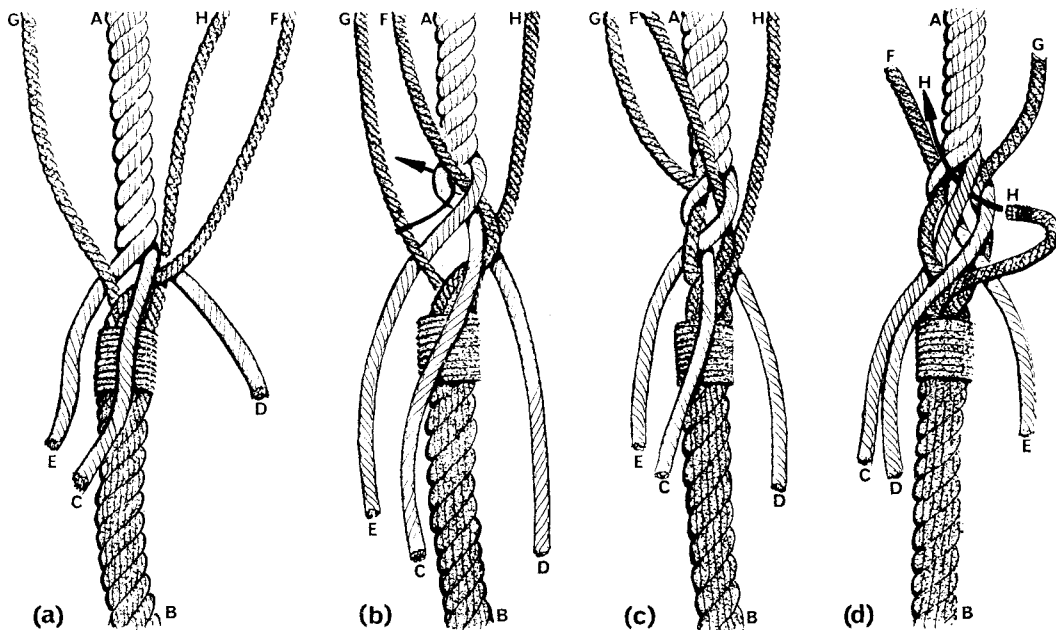

Fig 8.28 Making a Short Splice
In this splice the strands of each rope are tucked between the strands of the other rope against the lay, each strand being taken over the strand on its left, then under the next strand and emerging between this and the subsequent strand. In Fig 8.28 the ends of the ropes are marked A and B, and their unlayed strands C, D and E, and F, G, and H respectively.
- Having ensured a close marry, whip the strands strongly round the join to prevent them slipping, and stop ends C, D and E to rope B with a strong stop (whippings and stop have been omitted in Fig 8.28).